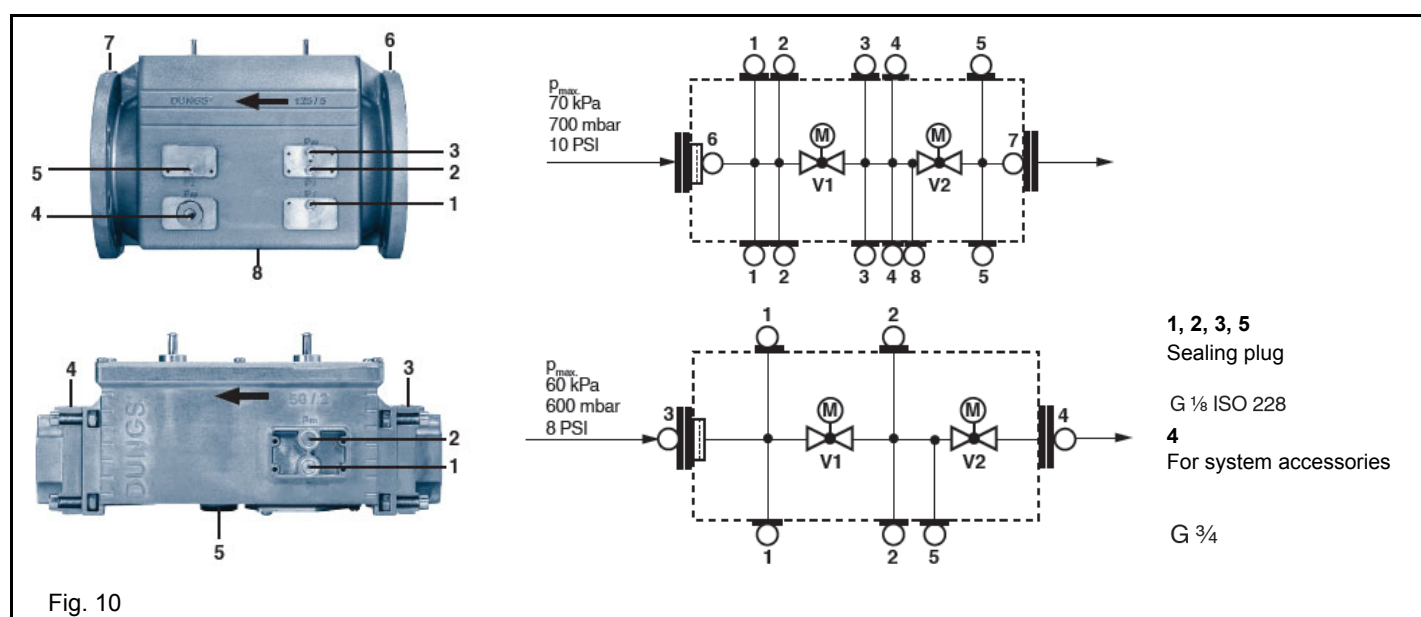

Fig. 10
**ATTENTION:** To set the outlet pressure of the VD-R regulator, act on the adjustment ring nut (Fig. 10)